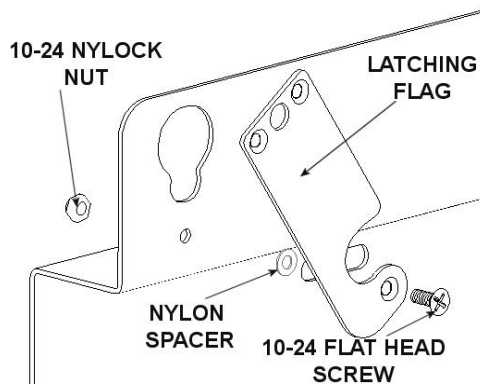

Figure 2
1. Attach latching flag (see Figure 2) and tighten screw until friction will hold the latch in place.